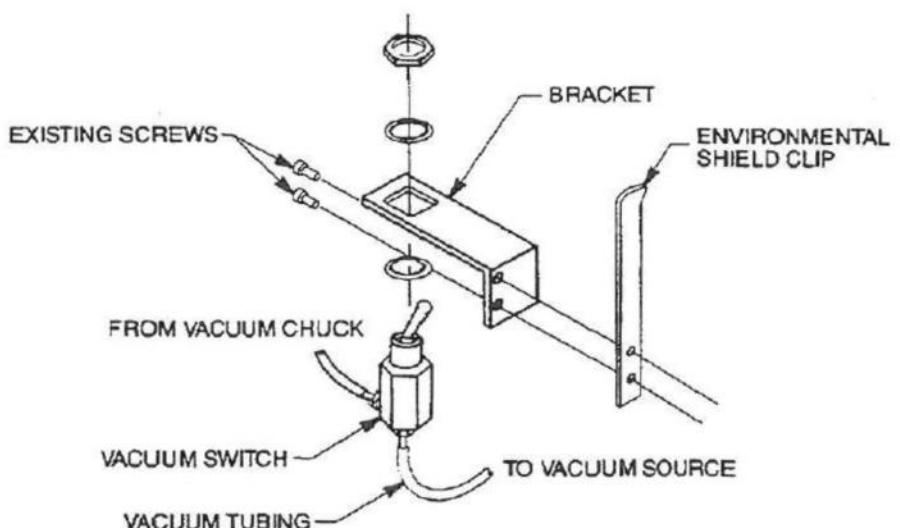

Figure C-3 - Vacuum Switch Assembly
12. Use the 3/32" driver to remove the two 4-40 x 1/4" socket head screws from the environmental shield retainer mounted inside the right front of the scan head. (See Figure C-3)
5. If the stress is to be measured against a reference scan produced earlier and saved in a data file, click-on the box labeled "Stress Data File." Enter the file name under which the reference scan profile data was saved and click-on "OK." Stress will be computed and the stress result window will be displayed (see Figure C-3).